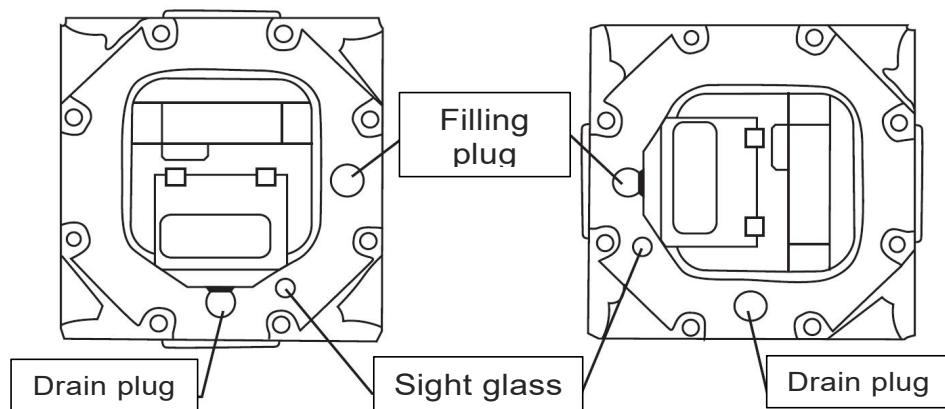

Figure 9 Oil filling and drain plug
(1) Oil should be added before the meter's running.
(2) The meter has two oil chambers (see Figure 9), which should be refueled separately.